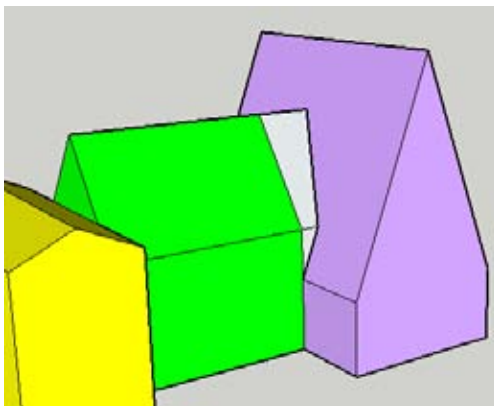

Figure 5-56
6. Add two more lines to complete the extension of the roof face and the wall face (Figure 5-56).